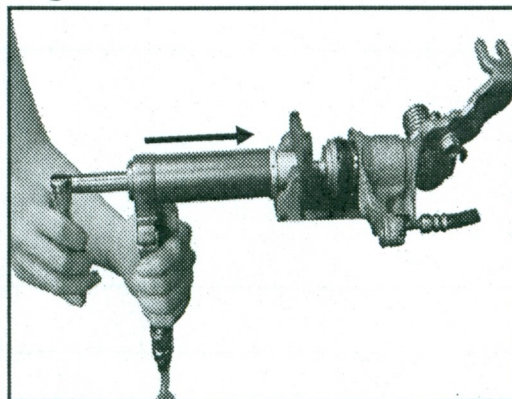

Fig.3
4. After pushing the piston backward, press button ② and pull lever ③ to move the push spindle ⑤ backward, releasing the tool from the caliper. (Fig.3)